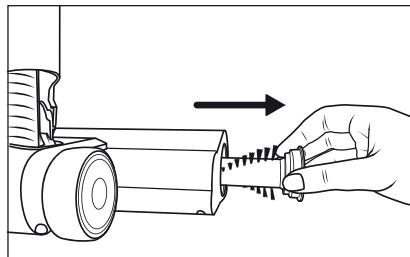

Fig. 27
- 3) Pull the rotary brush ⑩ out of the floor brush ⑪ (see Fig. 27).